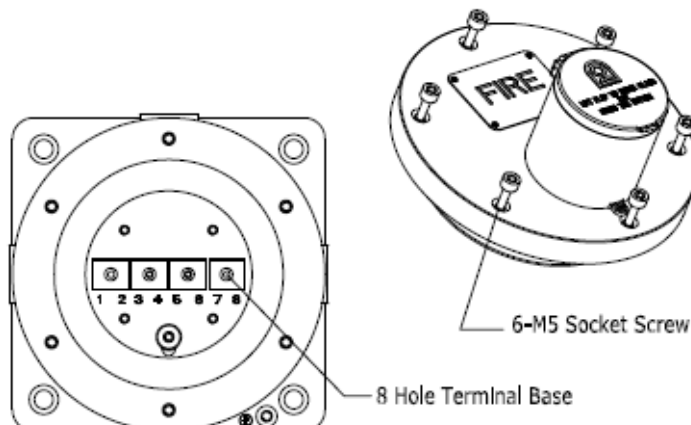

Fig. 2
The cable connection is connected with the 8-hole terminal blocks marked T1-T8 located in the product (See Fig 2). Cable connection should be carried out in accordance with relevant technical requirement.
Unscrew the six (6) M5 retained hex socket head screws. This will release the cover from the base and allow the cover to hang on the retaining wire strap. Before replacing the cover, check that the flameproof joints are clean and not damaged, the gasket is still retained in its groove. (See Fig 2)